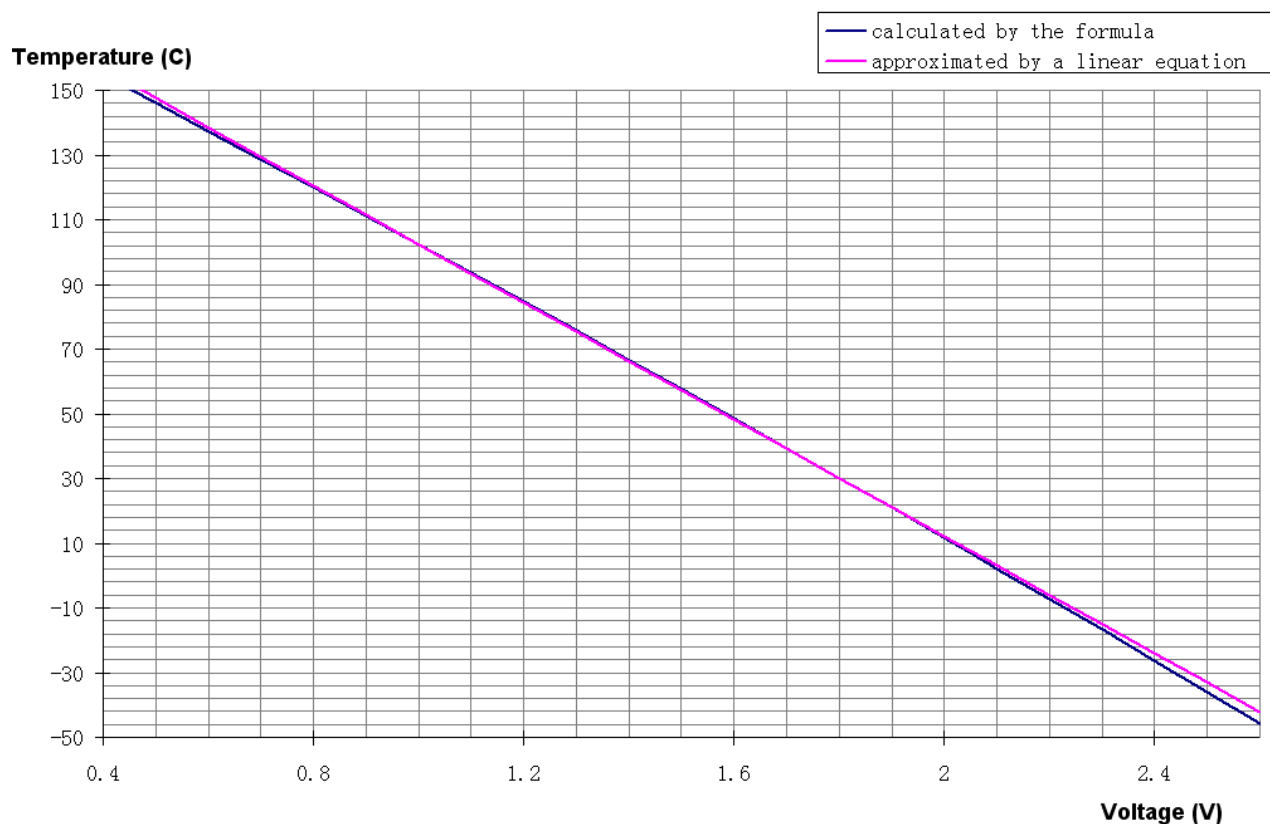

Figure 12. Controller Internal Temperature vs. TMPO Voltage
Within the most commonly used temperature range of between 0°C to 100°C, the maximum error occurs at about 1.5V, at which the temperature error between the calculated data by using the formula (1) and the approximated data obtained by using the linear equation (2) is about 0.4°C, with the linear data being a little lower. The curves of the 2 sets of the data are plotted in Figure 12.